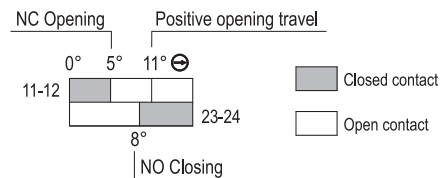

Fig.6
- The adjustment of the operating angle can be modified, in case of doors with large dimensions, till 1° before the start up of the hinge by adjusting the assembly screw by a screwdriver (fig. 6).